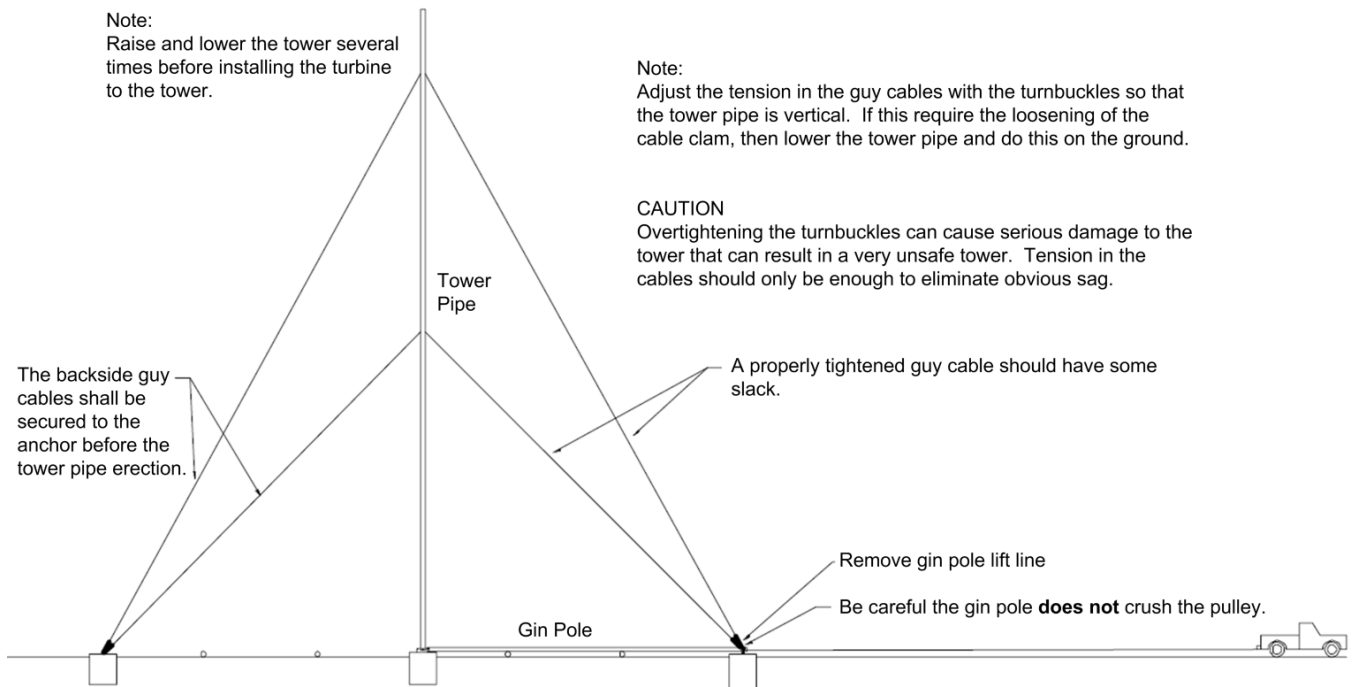

Figure 13
10. Raise tower slowly - carefully observing the tension in the side guys. If the side guys become taut, stop lifting and lower the tower and loosen the side guys that are too tight. Repeat if necessary. Excess tension in side guys due to anchors being lower than base pivot point will collapse the pipe. Raise tower until nearly vertical but with tension still on lift cable. A second person or the driver can now catch the lift pole and lower it gently to the ground. Allowing the lift pole to crash to the ground puts a serious strain on the back guys and other tower components. At the end of this step, the tower should be vertical (see Figure 13).